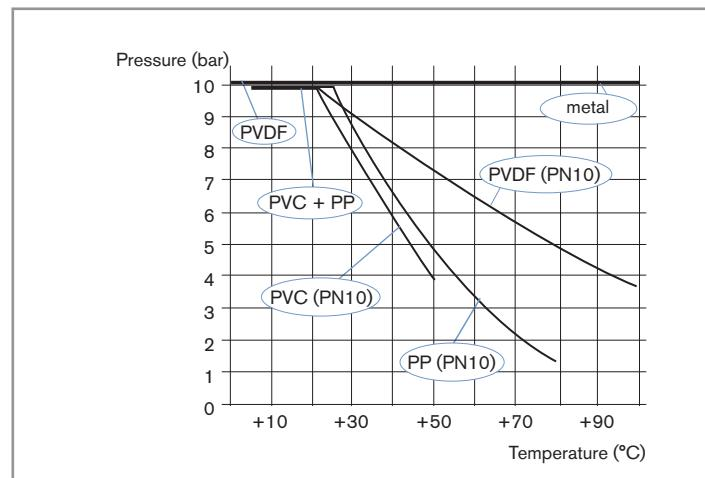

Fig. 3: Dependency between fluid pressure and fluid temperature, for the 8220 inserted in a S020 fitting, depending on the material of the S020 fitting
Fluid pressure	<p>PN 10</p> <p>Fluid temperature and material of the fitting S020 used, can limit the max. admissible pressure of the fluid (see Fig. 3)</p>
Fluid temperature	<p>Fluid pressure and material of the fitting S020 used, can limit the max. admissible temperature of the fluid (see Fig. 3)</p>
- ▶ Take account of the dependency between the fluid pressure and the fluid temperature, according to the materials the fitting is made of (see Fig. 3, page 11).